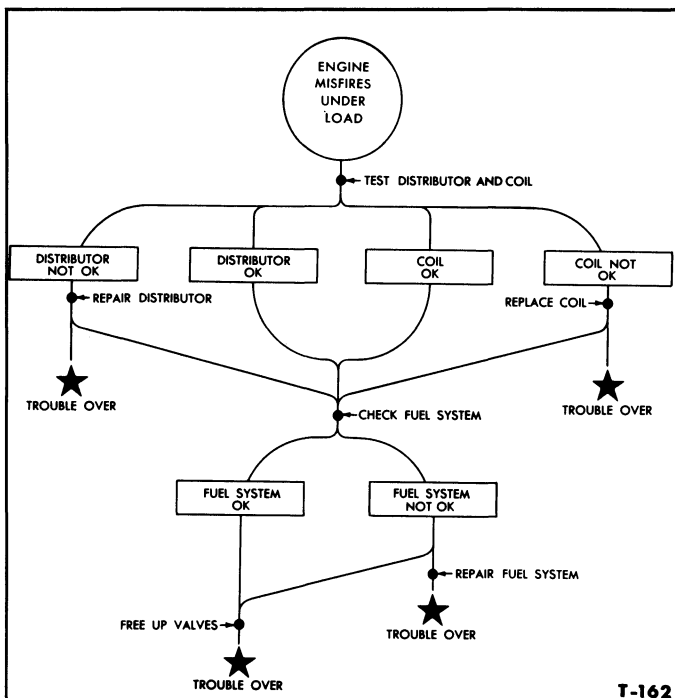

Figure 75—Engine Misfires Under Load—Road Map
1. Remove the distributor and follow the procedure given in the trouble shooting map in Figure 75.